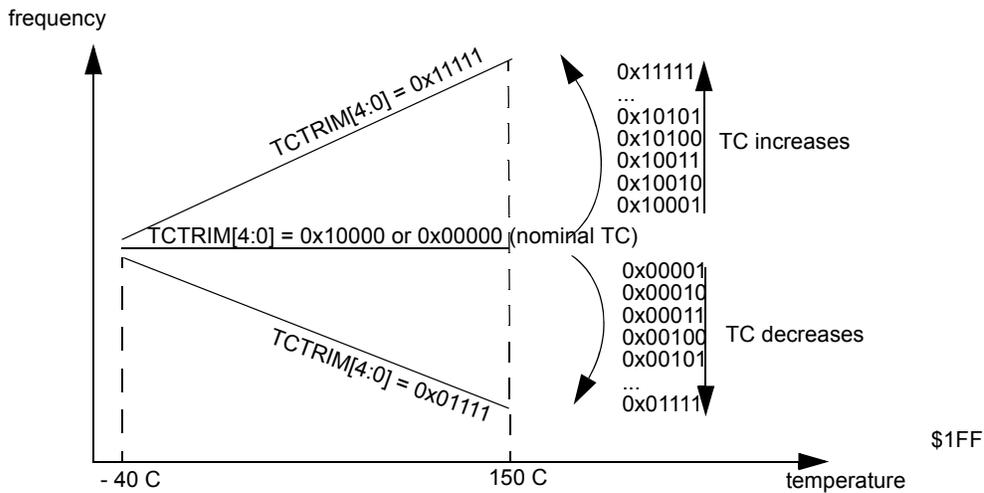

Figure 93. Influence of TCTRIM[4:0] on the temperature coefficient
15-11 TCTRIM	IRC1M temperature coefficient Trim Bits Trim bits for the Temperature Coefficient (TC) of the IRC1M frequency. Figure 93 shows the influence of the bits TCTRIM4:0] on the relationship between frequency and temperature. Figure 93 shows an approximate TC variation, relative to the nominal TC of the IRC1M (i.e. for TCTRIM[4:0]=0x00000 or 0x10000).